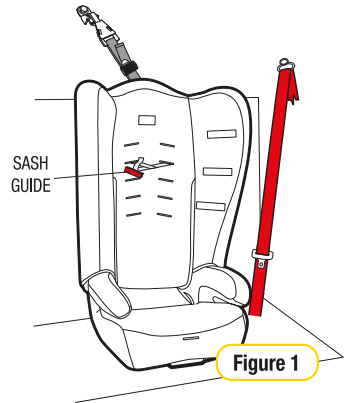

Figure 1
Step 1: Place the child restraint in the car, in a forward facing seating position (refer the Figure 1).